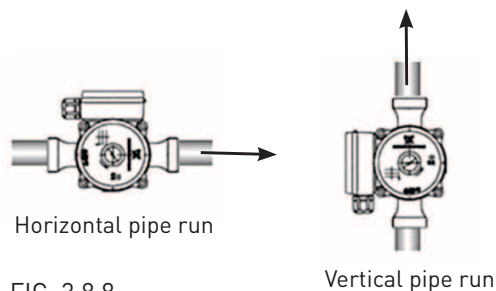

FIG. 3.8.8
- i) It is important that the pump is installed in the correct orientation, which for a 3 speed pump is with the barrel in a horizontal position, [see figure 3.8.8]. If vertical, the bearings can quickly be damaged. In addition the electronics casing should be positioned on the side with the cable exiting the bottom to avoid water ingress. The body of the pump can be rotated easily by just removing the two bolts, and the cable gland position on the plastic case can also be easily reversed by removing the lid and rotating 180deg.